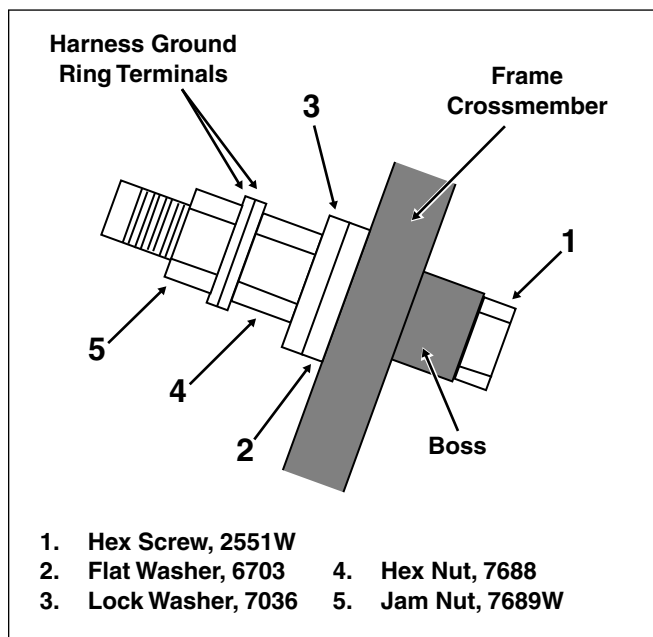

Figure 8-170. Install New Frame Ground Stud
4. Obtain five parts shown in Figure 8-170.